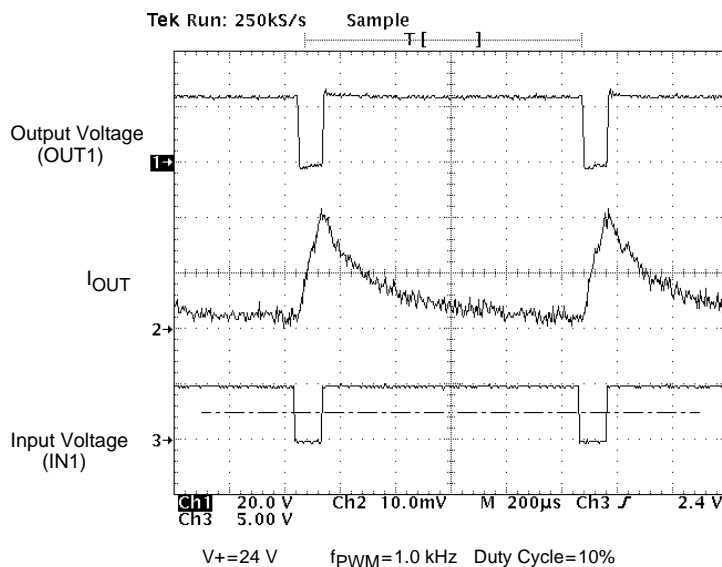

Figure 12. Output Voltage and Current vs. Input Voltage at V+ = 24 V, PMW Frequency of 1.0 kHz, and Duty Cycle of 10%
- 24 The outputs can be PWM-controlled from an external source. This is typically done by holding one input high while applying a PWM pulse train to the other input. The maximum PWM frequency obtainable is a compromise between switching losses and switching frequency. See Typical Switching Waveforms, Figures 12 through 19, pp. 14–17.